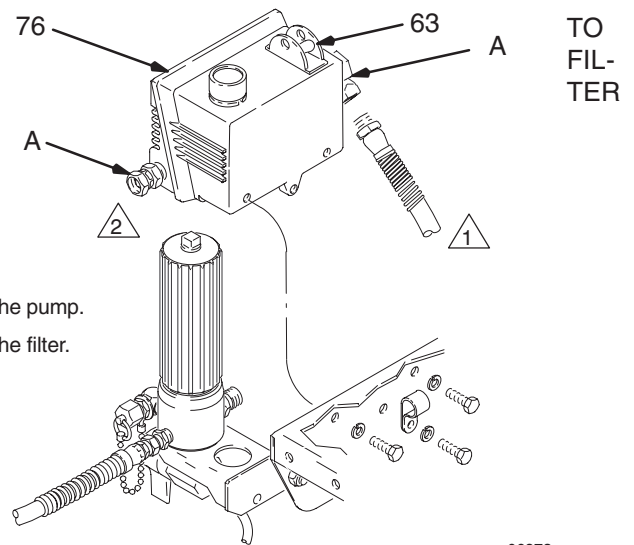

Fig. 21
2. Disconnect both hoses at the pressure control while holding the fitting or elbow (A) firmly. See the **CAUTION**, below. Note the original location of each hose to be sure you reassemble them correctly at the end of this procedure. See Fig. 21.